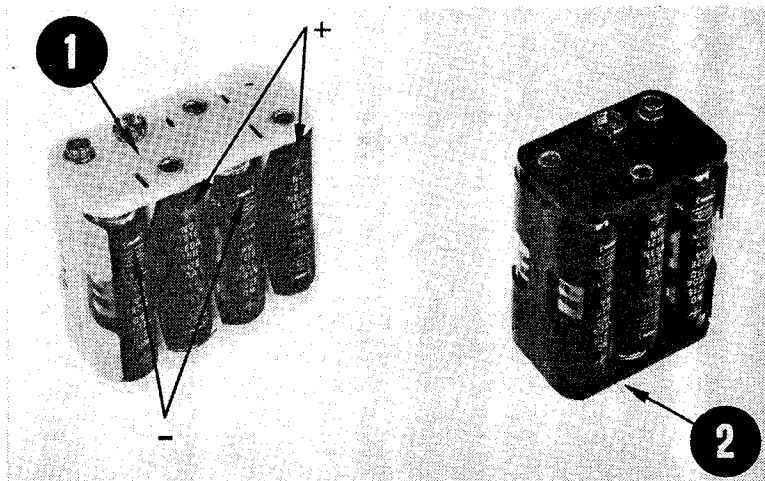

Figure 6
VI. Battery Installation (Figures 6,7 & 8):
A. Check both White Battery Pack (1) and Black Battery Pack (2) for polarity - each AA penlight battery should have negative (-) end compressing the spring inside its holder and the positive (+) end should be at the end without spring. **POSITIVE (+) AND NEGATIVE (-) ENDS OF THE BATTERIES SHOULD ALTERNATE AS SHOWN IN FIGURE 6.**
B. Connect White Battery Pack (1) to White Battery Connector (3) and Black Battery Pack (2) to Black Connector (4). **NOTE THAT CONNECTOR WILL ONLY FIT ONE WAY.**
C. Install Battery Packs (1 & 2) inside Battery Compartment (5).